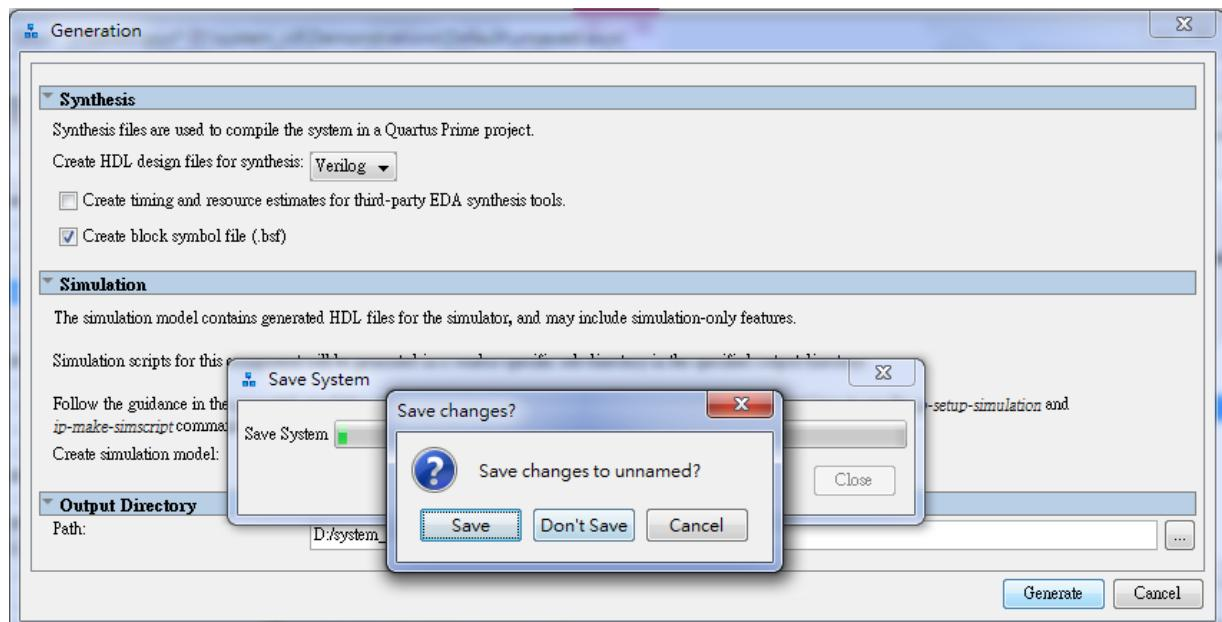
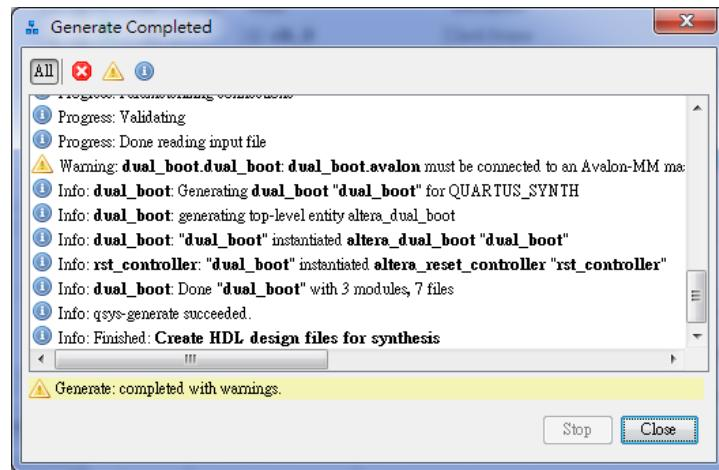

Figure 6-8 Generate and Save Qsys.
Figure 6-9 Generate completed.
4. Choose **Generate > Generate HDL..** and click **Generate** then pop a window as shown in **Figure 6-8**. Click **Save** it as **dual\_boot.qsys** and the generation start. If there is no error in the generation, the window will show successful as shown in **Figure 6-9**.